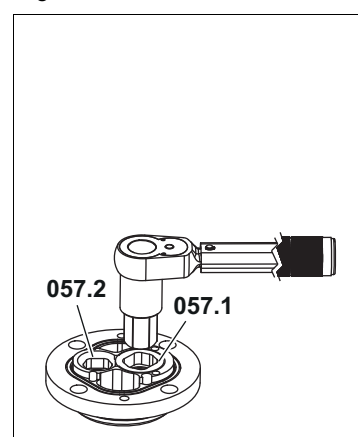

Fig. 16
6. Screw out the threaded rings **057.1** and **057.2** of the bearing cover, see Fig. 16, page 34. For allen key widths, see Tab. 2, page 36.